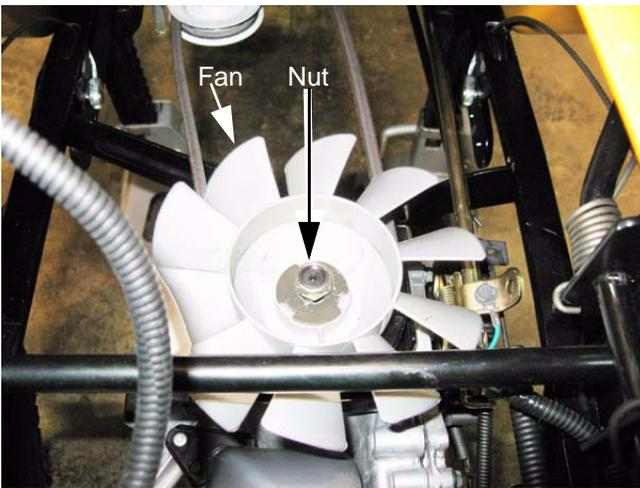

Figure 5.71
4. Remove drive belt from the transaxle pulley. See Figure 5.71.